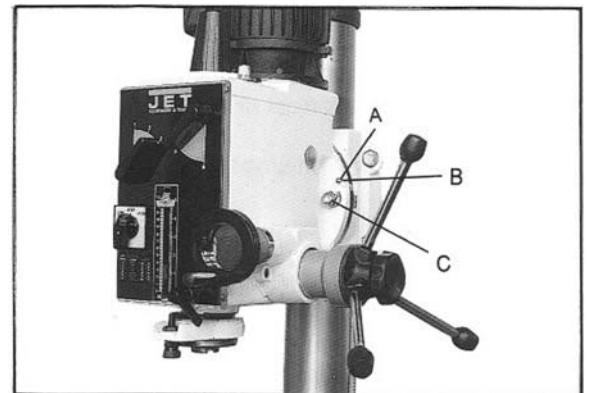

Figure 15
1. Turn nut (A, Figure 15) clockwise to pull out the alignment pin (B, Figure 15).
2. Loosen hex nuts (C, Figure 15).
4. Tighten two hex nuts (C, Figure 15).